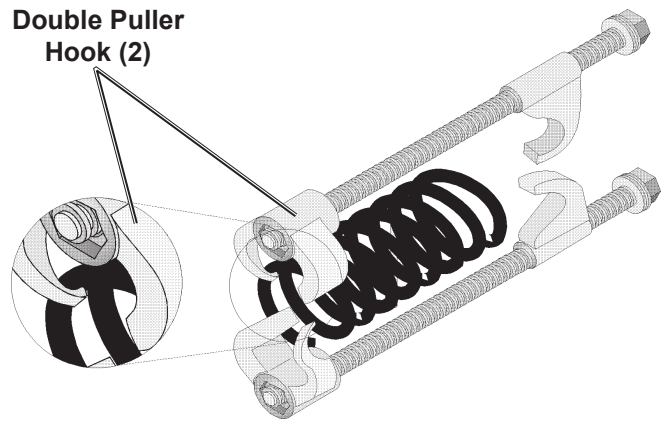

Figure 2 – Proper Hook Placement
4. Place the Double Puller Hooks (2) around the strut spring at the spot you identified in Step 2, as shown in Figure 2.